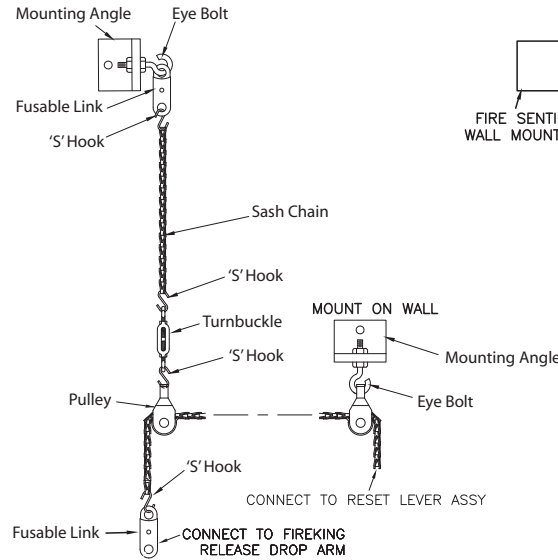

Figure 33
- Install release assembly as shown in Figures 33, 34, 35 and 36 as required.